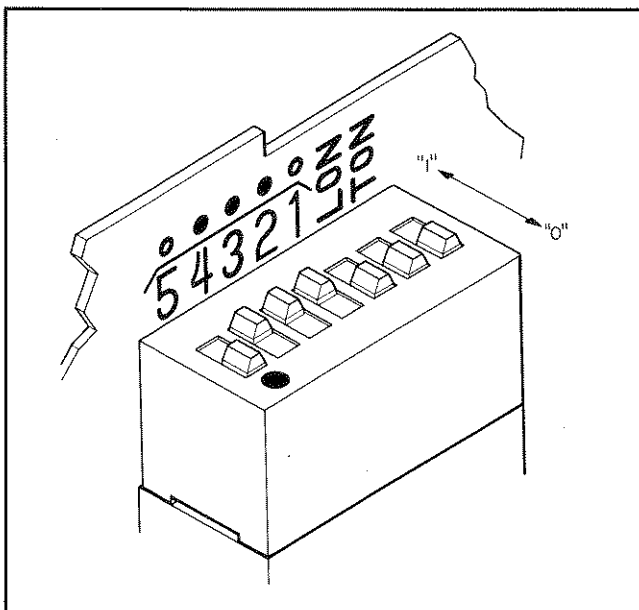

Figure 2-3. The HP-IB Address Switch Shown as Set by the Factory. The Address Shown is 01110 in Binary With Both Talk Only and Listen Only Off.
- e. Use a pencil to set the switches to the desired HP-IB address and Talk Only (TON) or Listen Only (LON) condition. The switch is illustrated in Figure 2-3. Facing the board, the left hand switch (marked with a "5") is the most significant address